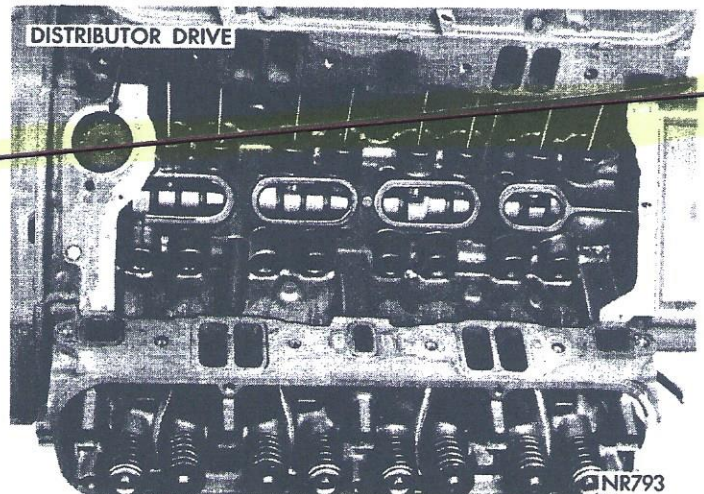

Fig. 42—Position of Distributor Drive Gear
(1) Rotate crankshaft until No. 1 cylinder is at top dead center on the firing stroke.
(2) When in this position, the timing mark on vibration damper should be under ("O") on the timing indicator.
(3) Coat shaft and drive gear with engine oil. Install the shaft so that after gear spirals into place, it will index with the oil pump shaft, so slot in top of drive gear will point to the first intake manifold bolt on left side of engine as shown in (Fig. 42).